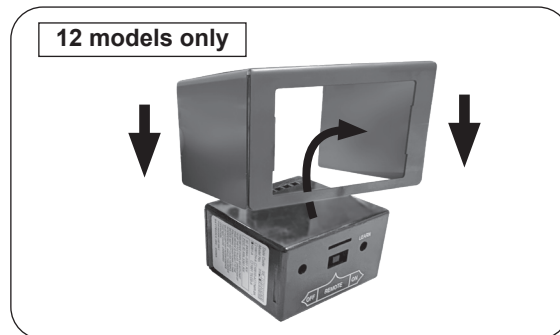

Fig. 20-1 Install heat shield
1. Install the included metal heatshield over the remote receiver as shown in Fig. 20-1. The front cutout has small tabs that snap into the front portion of the receiver.